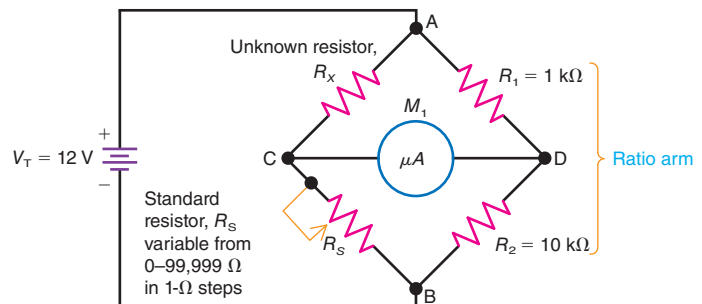

Figure 7-16
QUESTIONS 13–20 Refer to Fig. 7-16.
- In Fig. 7-16, how much voltage exists between terminals C and D when the bridge is balanced?
14. In Fig. 7-16, assume that the current in M_1 is zero when R_S is adjusted to $55,943 \Omega$. What is the value of the unknown resistor, R_X ?
15. In Fig. 7-16, assume that the bridge is balanced when R_S is adjusted to $15,000 \Omega$. How much is the total current, I_T , flowing to and from the terminals of the voltage source, V_T ?
16. In Fig. 7-16, what is the maximum unknown resistor, $R_{X(\text{max})}$, that can be measured for the resistor values shown in the ratio arm?
17. In Fig. 7-16, the ratio R_1/R_2 determines
18. In Fig. 7-16, assume that the standard resistor, R_S , has been adjusted so that the current in M_1 is exactly $0 \mu\text{A}$. How much voltage exists at terminal C with respect to terminal B?
19. In Fig. 7-16, assume that the ratio arm resistors, R_1 and R_2 , are interchanged. What is the value of the unknown resistor, R_X , if R_S equals $33,950 \Omega$ when the bridge is balanced?
20. In Fig. 7-16, assume that the standard resistor, R_S , cannot be adjusted high enough to provide a balanced condition. What modification must be made to the circuit?